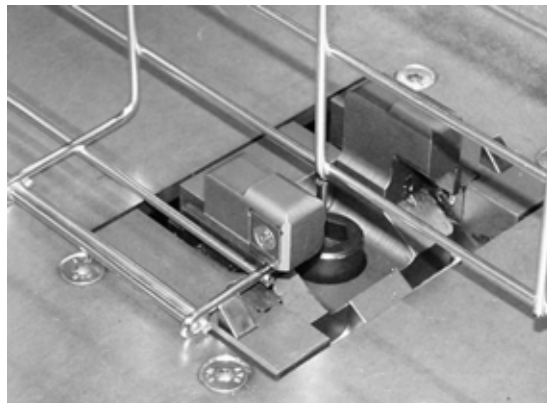

*Fig. 4.32 – Internal lateral single cut of the first bent part of lateral wire*
6. cut, by an internal lateral single cut, the first bent part of lateral wire (fig. 4.32);